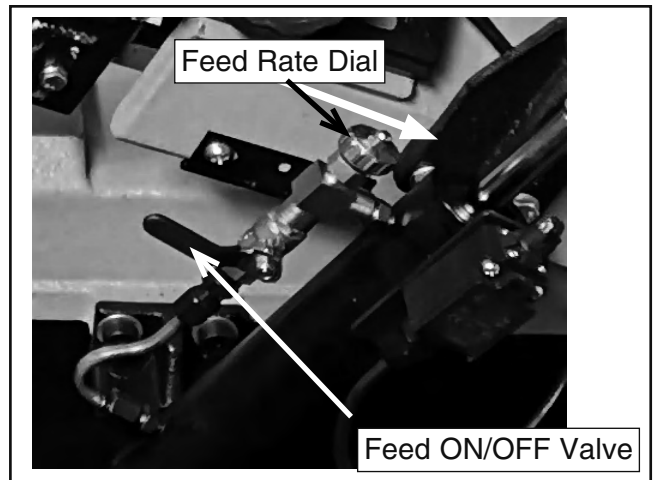

Figure 21. Location of feed ON/OFF valve.
4. Close feed ON/OFF valve shown in **Figure 21**, to lock the bow.